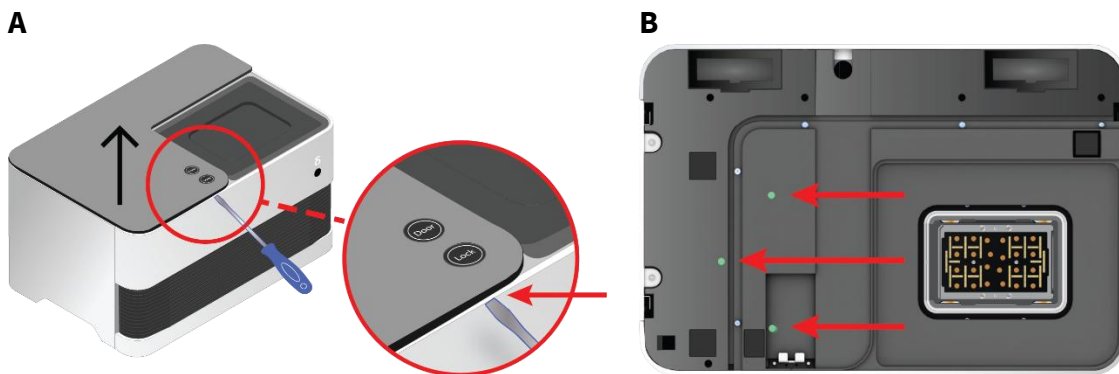

FIG. 5A. LATCH POSITION TO OPEN THE TOP COVER, B. SAFETY PLASTIC PINS TO BE REMOVED.
1. Open the top metal plate by inserting a 2 mm diameter Allen key at a specific spot under the plate (Fig. 5A). You can also use any other rigid object to trigger the latch to open.